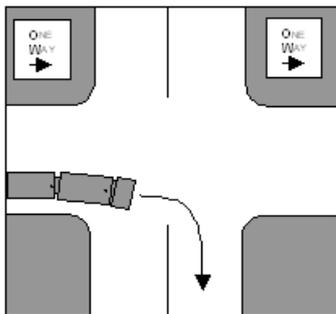

Fig 1
- 32.1.1 right from a one-way road, you must approach the intersection or junction as near as practicable to the right boundary of the one-way road (Fig 1);